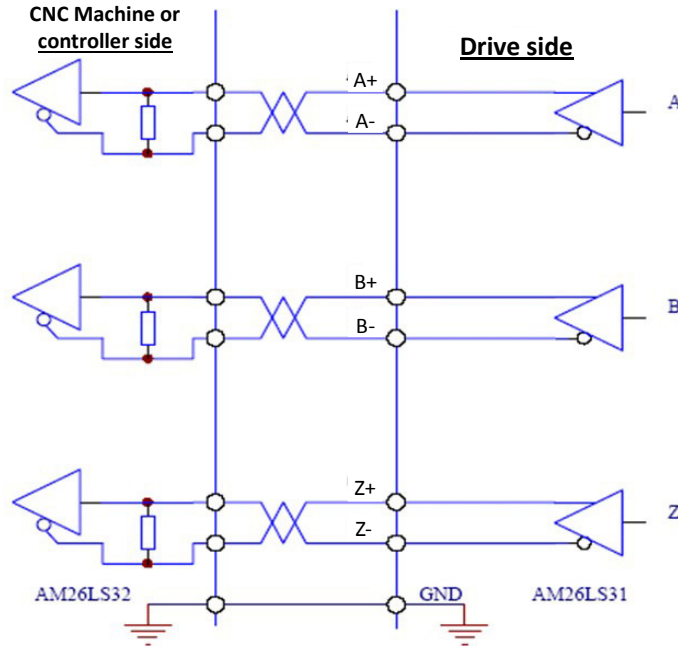

Figure 4-6a Type5 optical encoder output signal
- Non-isolated outputs, as shown in Figure 4-6a;